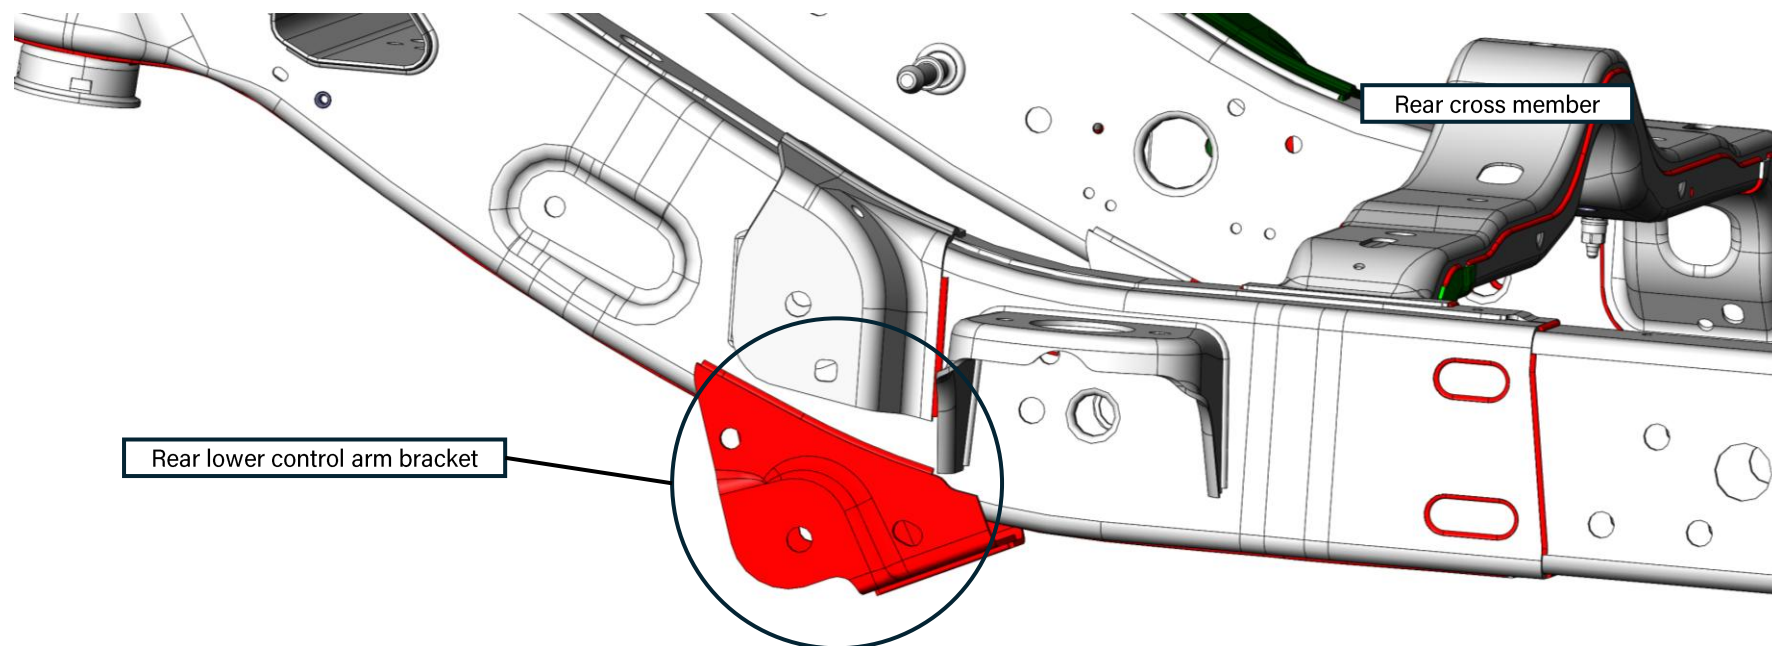

Figure 24: CAD model of original rear lower control arm bracket (passenger side)
19. Remove both rear lower control arms and begin cutting off the lower control arm brackets from the frame. It is recommended to cut the bracket just below the weld and then grind the weld flat. Complete this set for both sides. See Figure 24 for the rear lower control arm bracket on the passenger side of the vehicle (highlighted in red).